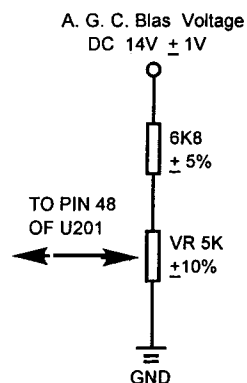

Fig. 2b
*A.G.C. Bias Voltage can't over 5V. (see fig.2b)